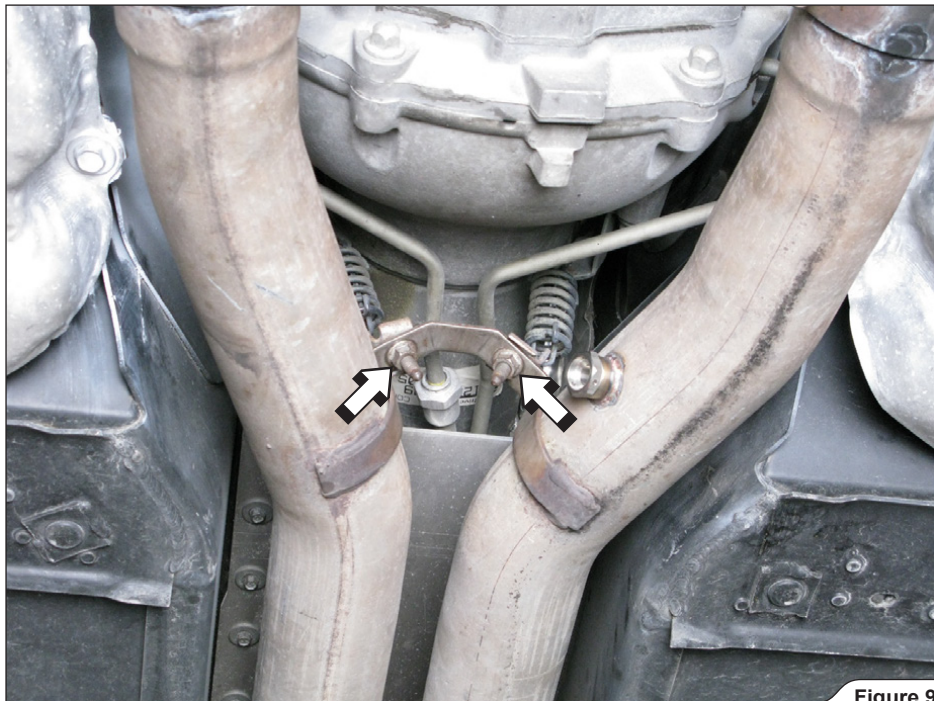

Figure 9
7. **For Evolution only:** unscrew the marked nuts. Remove the front exhaust tubes off the vehicle (Figure 9).